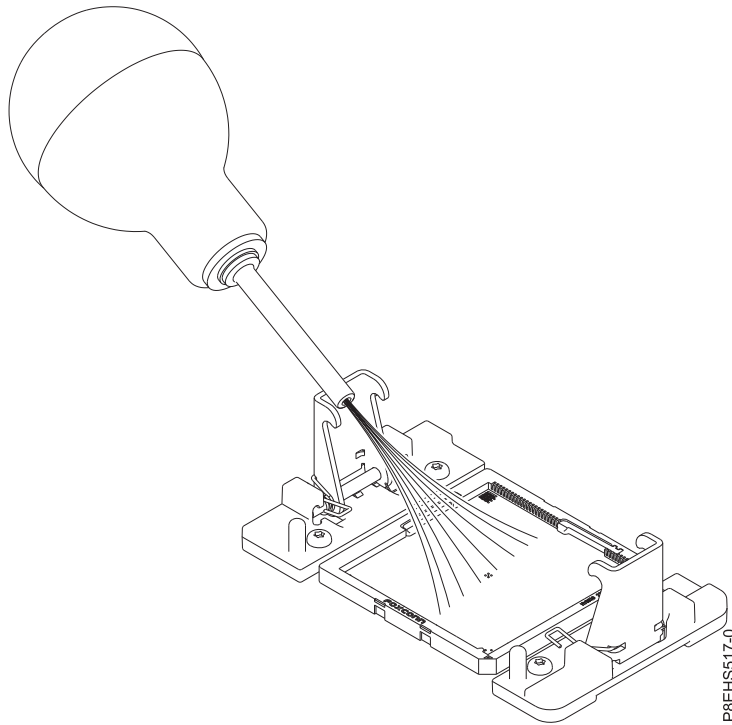

Figure 74. Removing dust and debris from the system processor socket
- a. If dust or debris is present on the system processor socket, use the supplied air pump (part number 45D2645) to clean the socket. Blow small bursts of air from the center toward the sides of the socket, as shown Figure 74 on page 75.